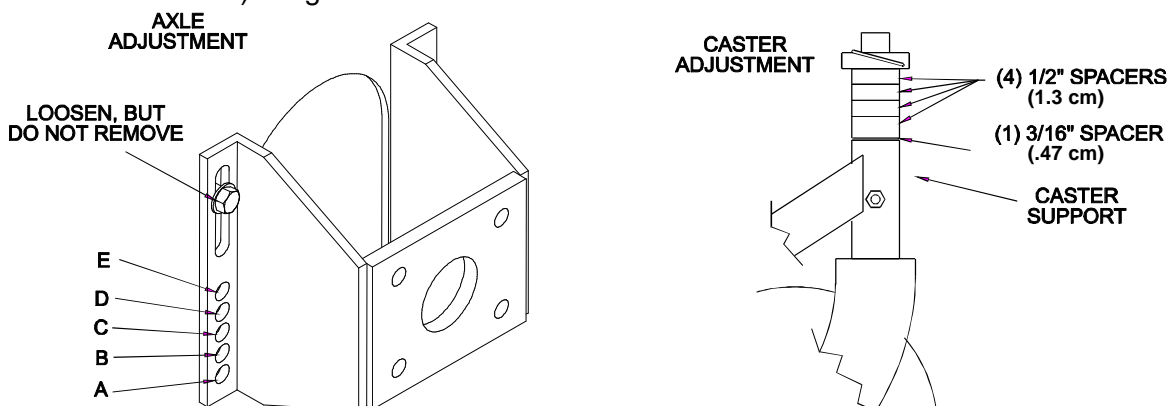

FIGURE 10
Desired cutting height range can be obtained by adjusting the rear axle and placing caster spacers above or below the caster arm (See Figure 10).
- c) Loosen but do not remove the **top** two bolts on each hydraulic motor mounting bracket, (See Figure 10).